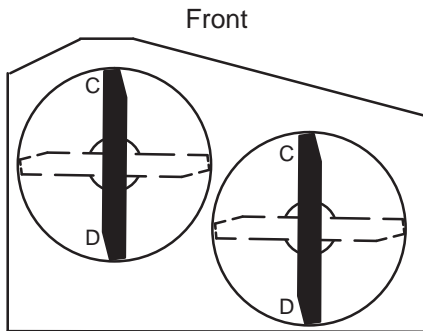
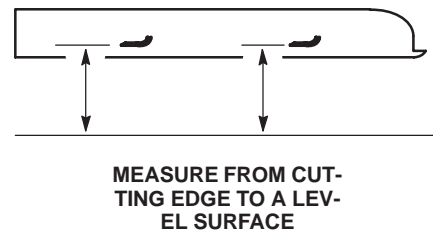

Figure 64
Figure 65
2. Position one blade front-to-rear (Fig. 64). Measure at **C** and **D** locations (Fig. 64) from a level surface to the cutting edge of the blade tips (Fig. 65).
4. Position the blades front-to-rear (Fig. 64). Measure at **C** and **D** locations (Fig. 64) from a level surface to the cutting edge of the blades (Fig. 65).